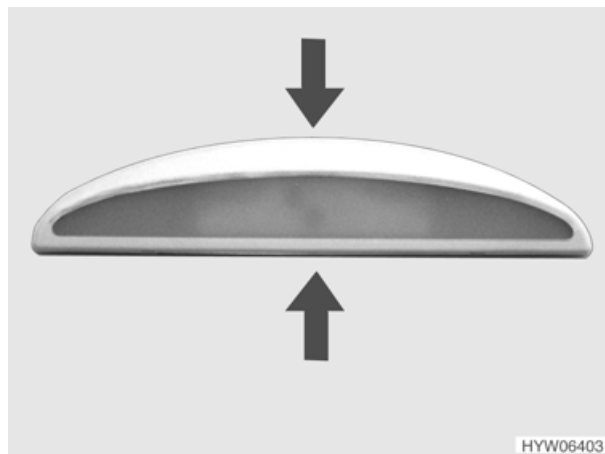

Fig. 98 Awning light
- Press the housing gently together (Fig. 98) and pull it out towards you.